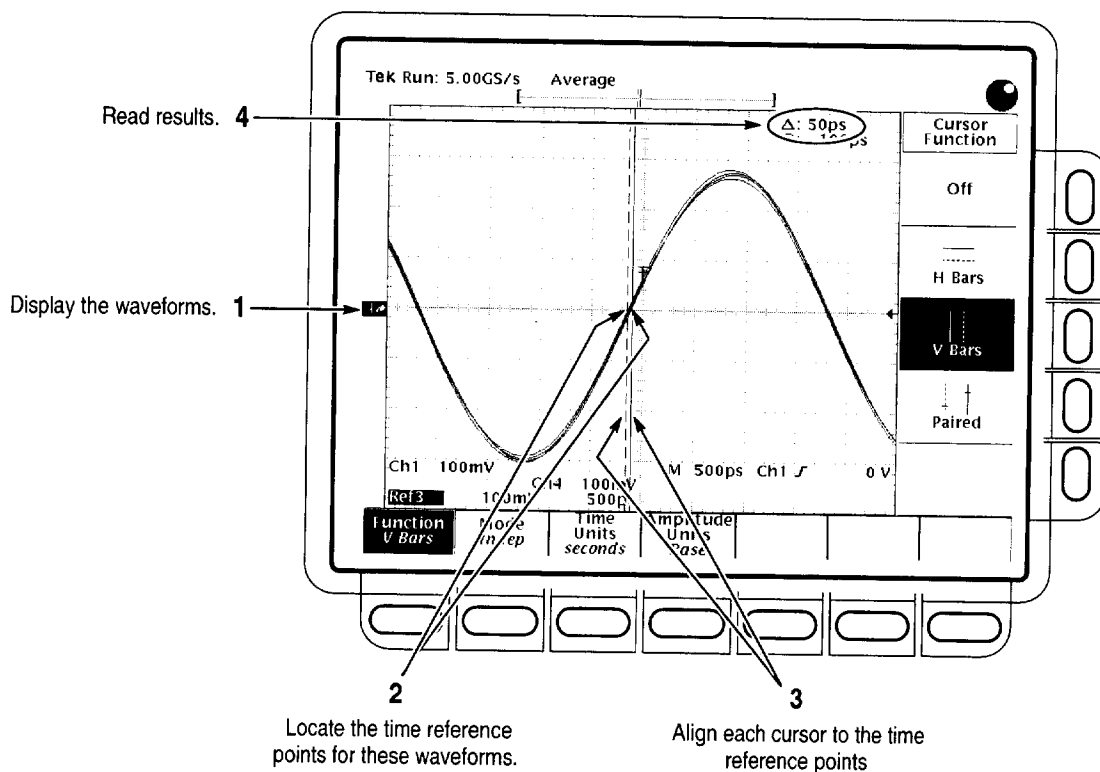

Figure 1-11: Measurement of channel delay – TDS 684C shown
- Display the live waveform. Move the coupler from **CH 3** to **CH 4**, so that **CH 1** and **CH 4** are driven. (Use **AUX1** and **AUX2** instead of **CH3** and **CH4** if your TDS model is so equipped). Press **CH 4** to display. See Figure 1-11 on page 1-48.
- Display the reference waveforms. To do this, press the front-panel button **MORE**. Press the main-menu buttons **Ref 2** and **Ref 3**. You may notice their overlapping ground reference indicators. See Figure 1-11 on page 1-48.
- Locate the time reference points for these waveforms. Do this by first identifying the point where the rising edge of the left-most waveform crosses the center horizontal graticule line. Next, note the corresponding *time reference point* for the right-most waveform. See Figure 1-11 on page 1-48.
- Align one V bar cursor to the *time reference point* of the left-most waveform edge and the other cursor to the *time reference point* of the right-most waveform edge by rotating the General Purpose knob. (Press **SELECT** to switch between the two cursors). See Figure 1-11 on page 1-48.